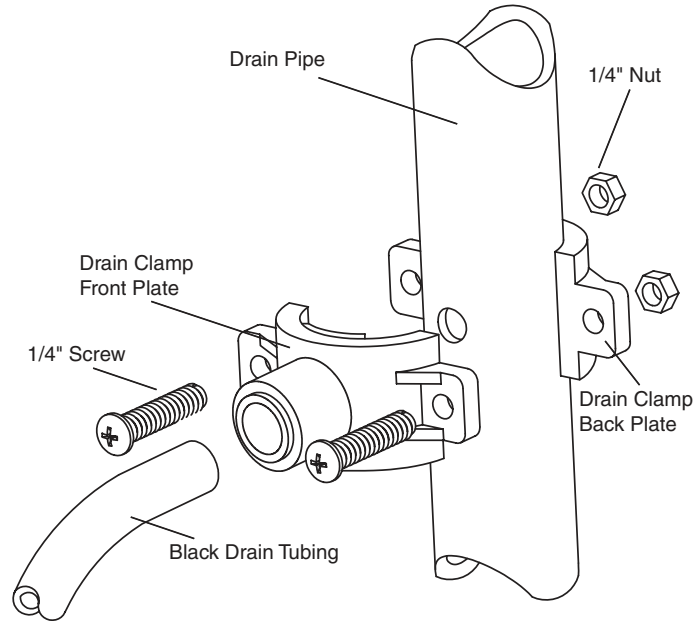

Figure 4
•Refer to Fig. 4, page 12. Insert the tubing into the Drain Clamp. Make sure the tubing is pressed all the way in to create a pressure tight connection.